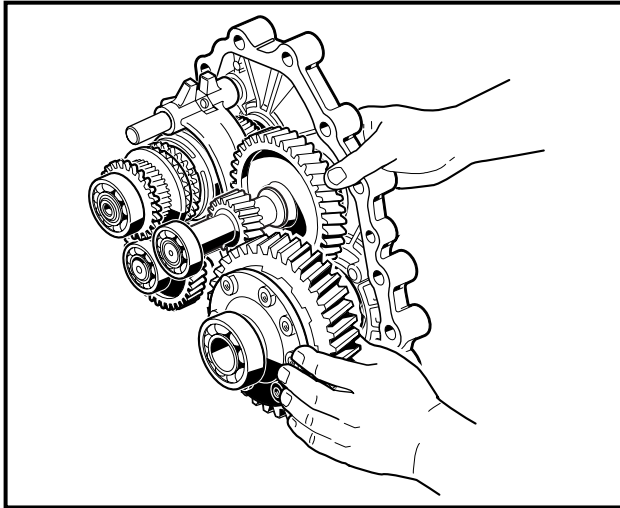

Figure 6-6 Loosen Gears
- Turn the case section containing the gearing on edge (**Figure 6-6, Page 6-5**). While holding it in this position, gently rock all the gear assemblies to slightly loosen them in their seating. **See following CAUTION.**